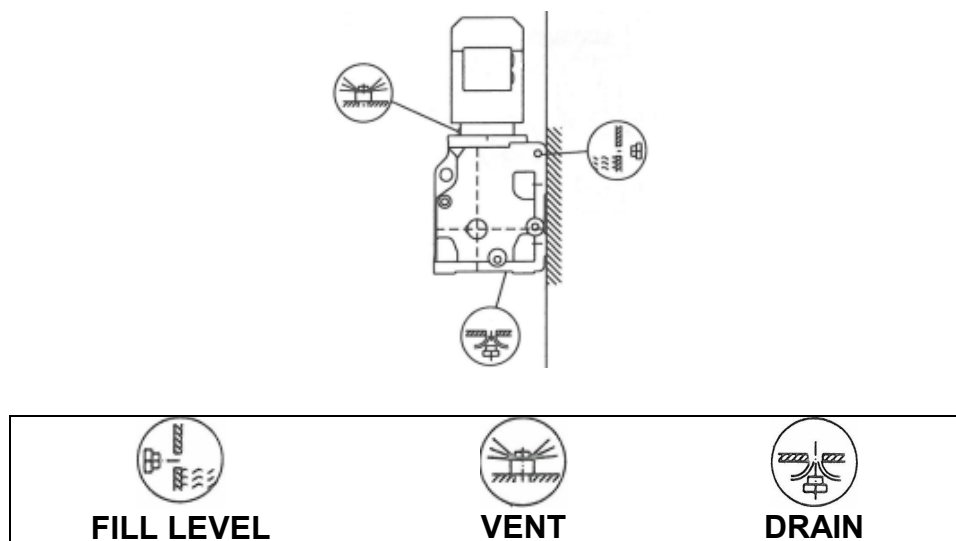

Figure 5 – Gear Reducer Lubrication Ports
1. The gear reducer unit is filled with oil when shipped from the factory. The oil level is determined by what position the reducer is operating in. The oil level should be checked when the machine is installed to ensure that the reducer is properly lubricated. Check the gear reducer oil level by removing the access panel on the lower right side of the machine. The oil level should be visible through the fill hole as shown. (See Figure 5). Contact JR Clancy if the lubrication level is incorrect.